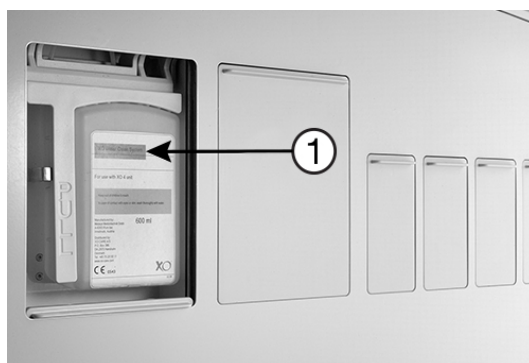

Figure 59 – Replacing the XO Water Clean cartridge
1. Lower the left-hand service panel – Figure 59